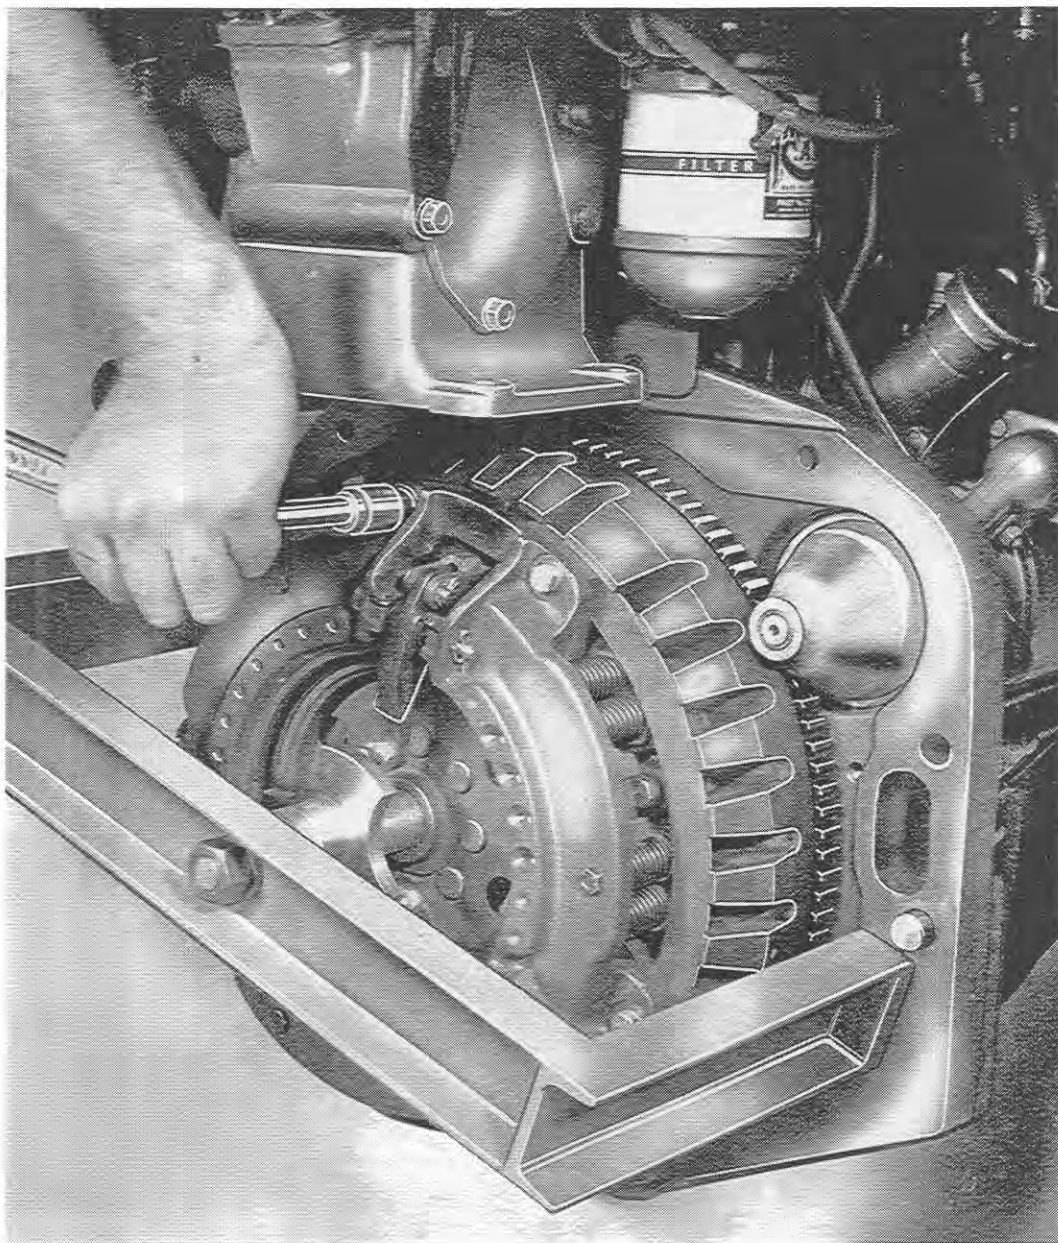

Fig. 10
- 3) Offer up the clutch assembly to the flywheel positioning the bridge MINA2 as shown in Fig. 10.
- 6) Fit and tighten the 6 clutch assembly screws (Fig. 10).